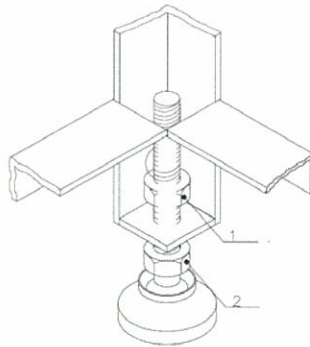

FIG. 2
8. Adjust the heights of the floor flanges at the corners so that the sterilizer would be movable on its casters. (FIG. 2)